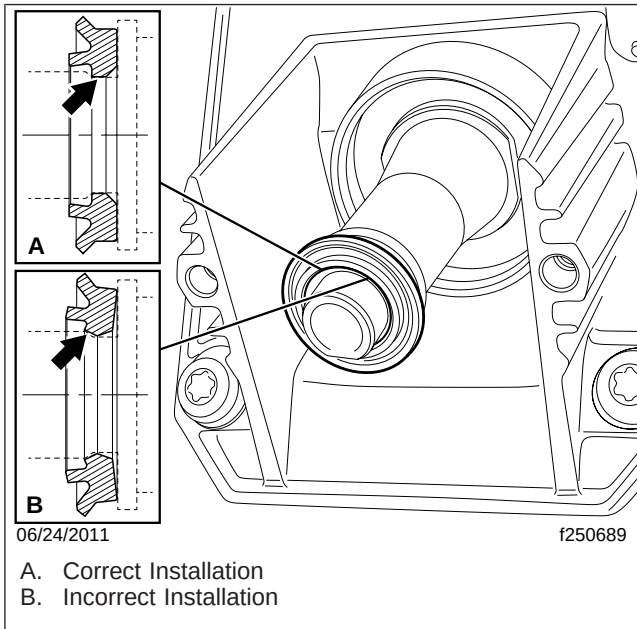

Fig. 3, Hydraulic Subassembly
7. Lubricate a new lip seal and mount it on the piston. See Fig. 3.